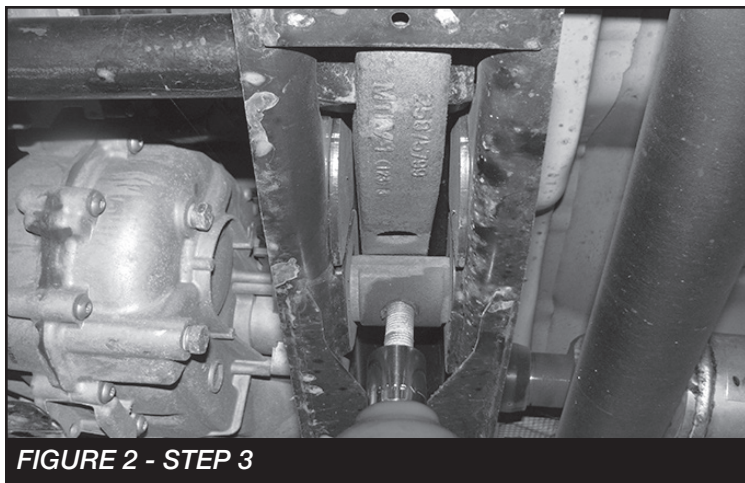

FIGURE 2 - STEP 3
3. Locate and remove the torsion bar adjusting bolts. Save for re-installation. **SEE FIGURE 2**